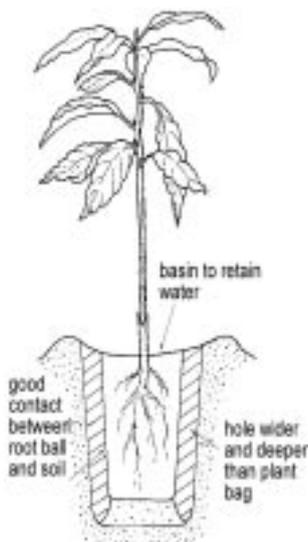

Figure 11. A correctly planted tree
4. Firm soil down gently with your hands (do not use your feet), and build up the level of the soil to just above the top of the potting mix, leaving a slight basin around the tree to hold water (Figure 11). Water again.